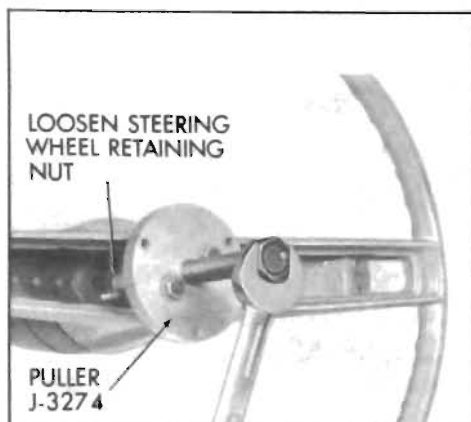

Figure 8-8—Removing Steering Wheel
4. Attach Puller J-3274 to wheel hub and pull wheel up to nut. See Figure 8-8. If wheel hub is very tight on shaft, apply a moderate strain with puller then rap on end of puller screw to break hub loose from shaft. Remove puller, nut, and steering wheel.